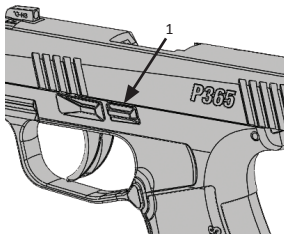

Figure 2
- a. Pressing down slide catch lever (Figure 2, Item 1).